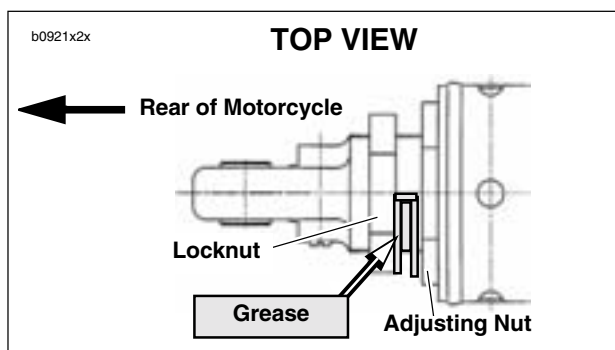

Figure 1-29. Applying Grease to Shock
3. See Figure 1-29. When preload adjustments have been made, apply wheel bearing grease halfway around the shock (180 degrees) to the mating faces of the locknut and adjuster nut and the first few threads on the aluminum body leading to the adjuster nut.